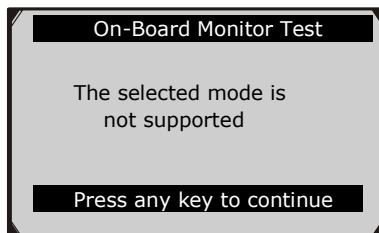

Figure 6.29
- If the vehicle under test does not support the mode, an advisory message will be displayed on the screen. (Figure 6.29)